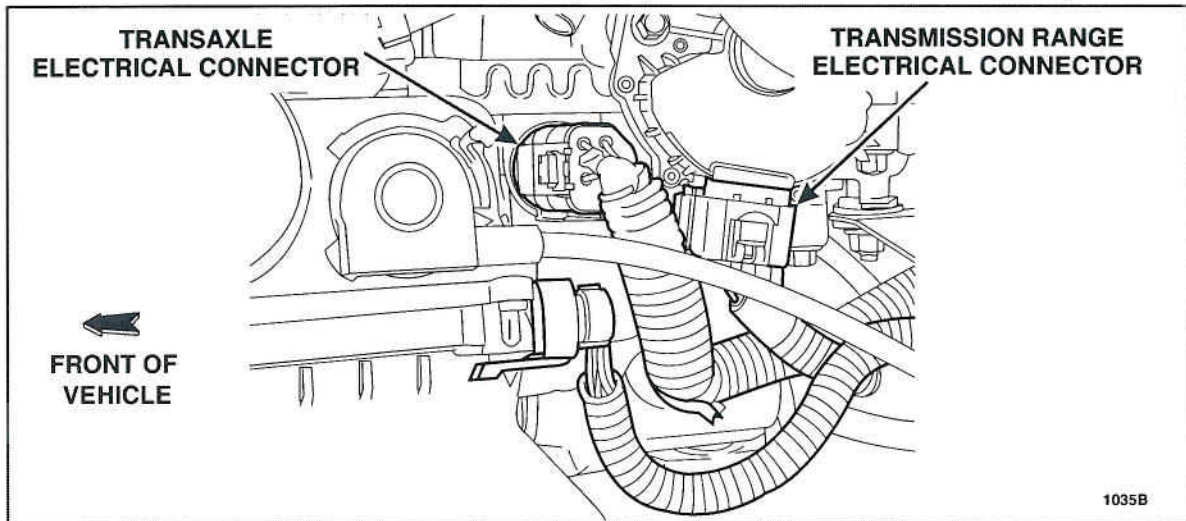

FIGURE 2
8. Disconnect the transaxle and Transmission Range (TR) sensor electrical connectors. See Figure 2.